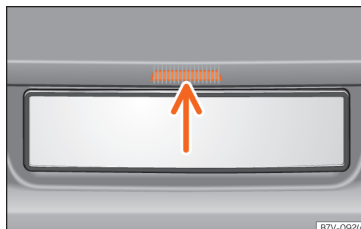

Fig. 105 Opening the boot hatch from the outside
- **OR:** press the **» Fig. 105** boot hatch button (arrow).